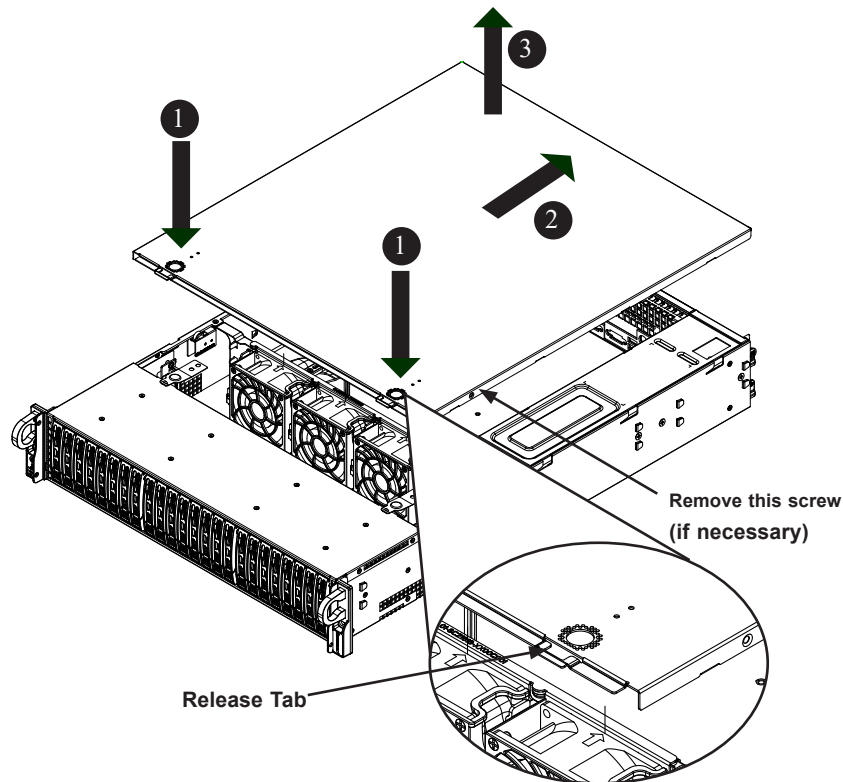

Figure 3-1. Removing the Chassis Cover
3. Slide the cover toward the rear of the chassis. See Figure 3-1.